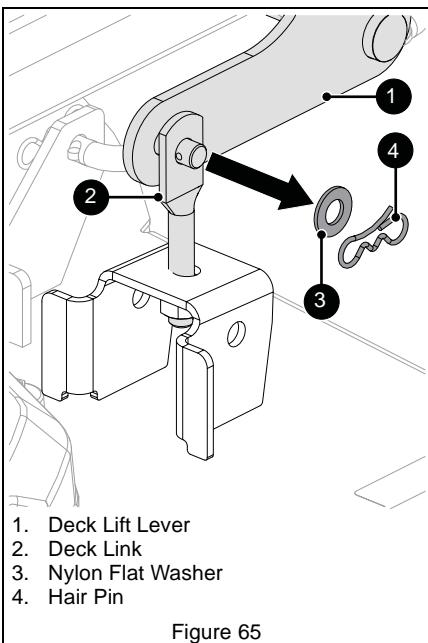

Figure 65
3. Remove one hair pin and one nylon flat washer from deck lift lever. Retain hardware for reinstallation. See Figure 65.